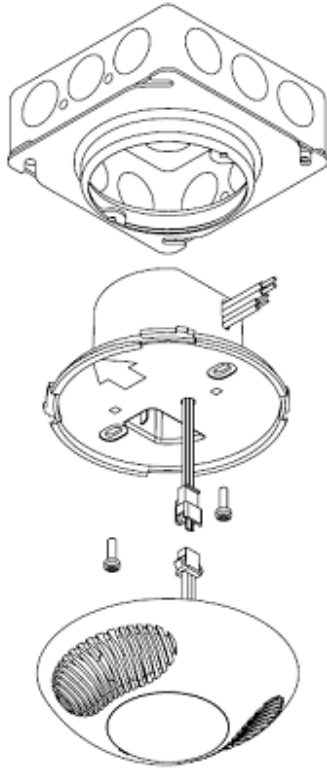

Figure 3
7. Twist sensor on to power pack mounting plate until secured (Figure 3).